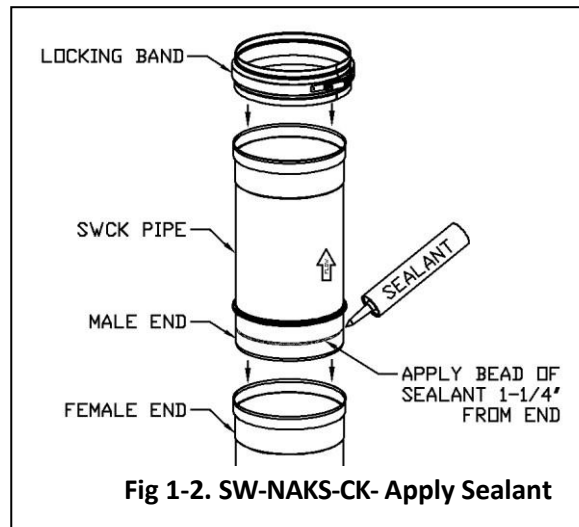

Fig 1-2. SW-NAKS-CK- Apply Sealant
The Model NAKS-CK joint system is designed for a quick and easy installation. The procedure for DW Double-wall and SW single-wall are similar. See Figs 1-2 to 1-9.
3. Apply J- Sealant continuously (1/4" bead minimum) to the male end of the inner flue pipe. Sealant is to be approximately 1-1/4" from the end of pipe. (See Fig 1-2)
5. Position the Locking Band (LB) around the joint and ensure grooves in LB are seated in the Pipe grooves.